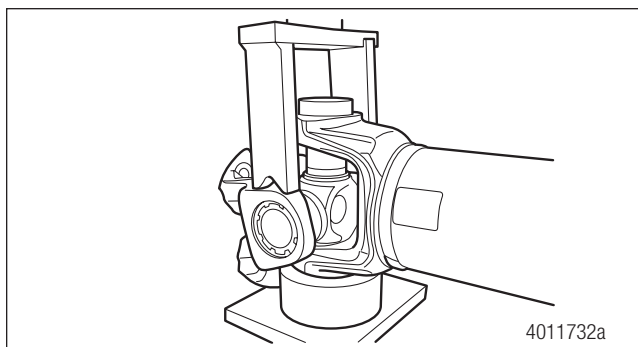

Figure 5.74
9. Install the press bridge tool on the ears of the drive flange and use a press to press DOWN. Figure 5.74.